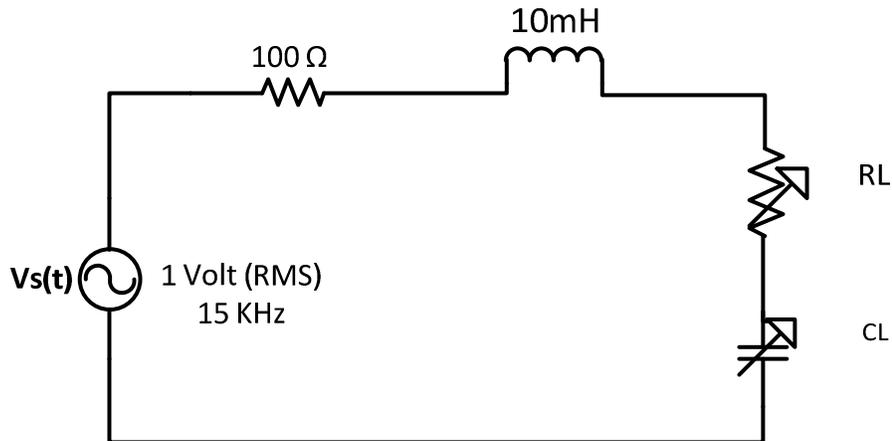

Fig. 1
For the circuit shown Figure 1:
Consider Figure. 1. If the source impedance has a resistive and reactive parts, the maximum power is transferred to the load (actually to the resistive part of the load) when the load resistance equal the source resistance and the load reactance is opposite to the source reactance.
1. Consider the 10 mH inductor in the circuit of Fig. 1. as part of the source impedance. Measure its internal resistance  $R_i$ , Add 100 Ohm in addition to this resistance. This means  $R_S= R_i+100$ . Set the source voltage to a sinusoid of 1  $V_{RMS}$  and frequency of 15 KHz.